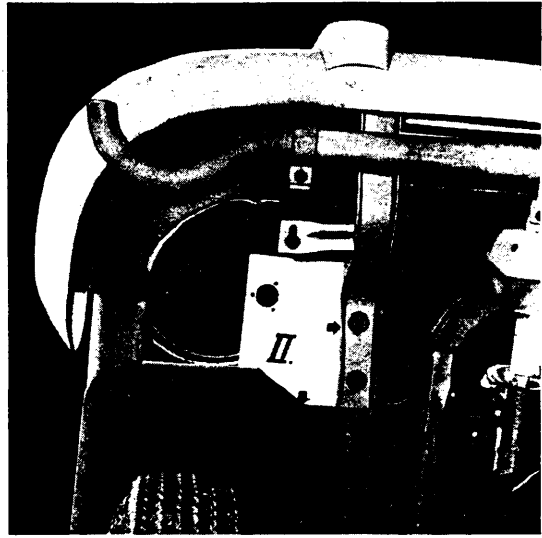

Fig. 6
- 7 - With template II mark off and drill the hole for the intake pipe and the holes for the pipe bracket, from underneath (Fig. 6). Clean up edges of holes.